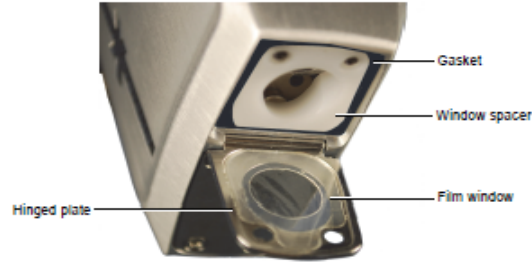

Figure 38. XRF nozzle showing ultralene window replacement
4. Remove the two screws on the plate using the Phillips Head screwdriver (*Figure 38*)